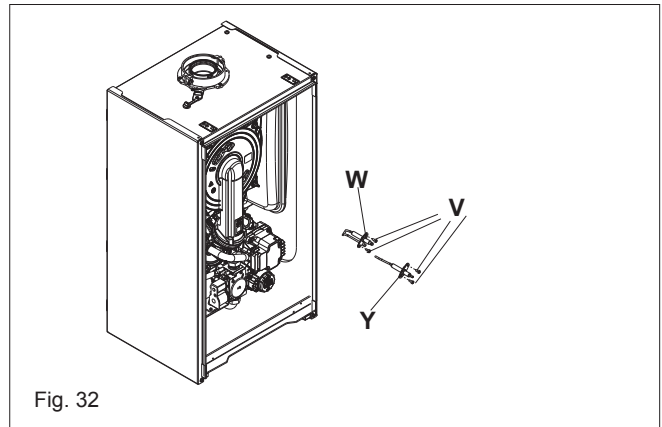

Fig. 32
7.20 ELECTRODES (FIG. 32)
Carry out component removal procedure as described in 7.9. Remove the valve actuator as described in Fig. 32. Locate and remove the locking pin (G2) that secures the valve housing cover to the hydraulic manifold. Gently prise the valve assembly from the manifold (K2). Replace in the reverse order ensuring that the seating assembly is inserted properly. Ensure all seals are in good condition, taking care to ensure they are replaced correctly.